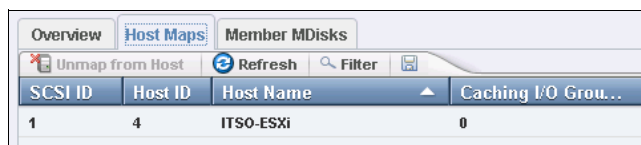

Figure 5-22 Host maps
3. After the task completes, click **Apply** and **Close**. The wizard returns to the Volumes window. By double-clicking the volume, you can see the Host Maps (Figure 5-22).